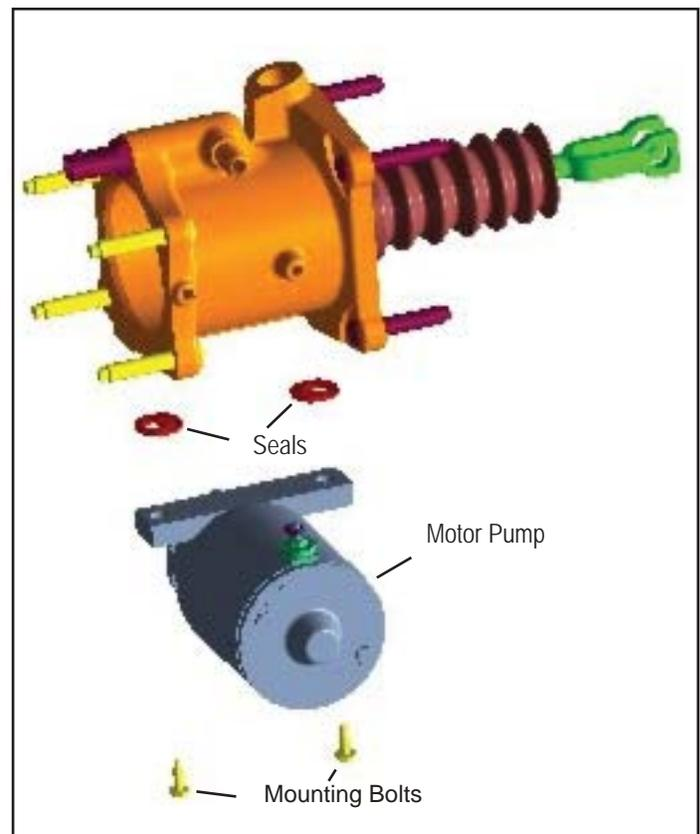
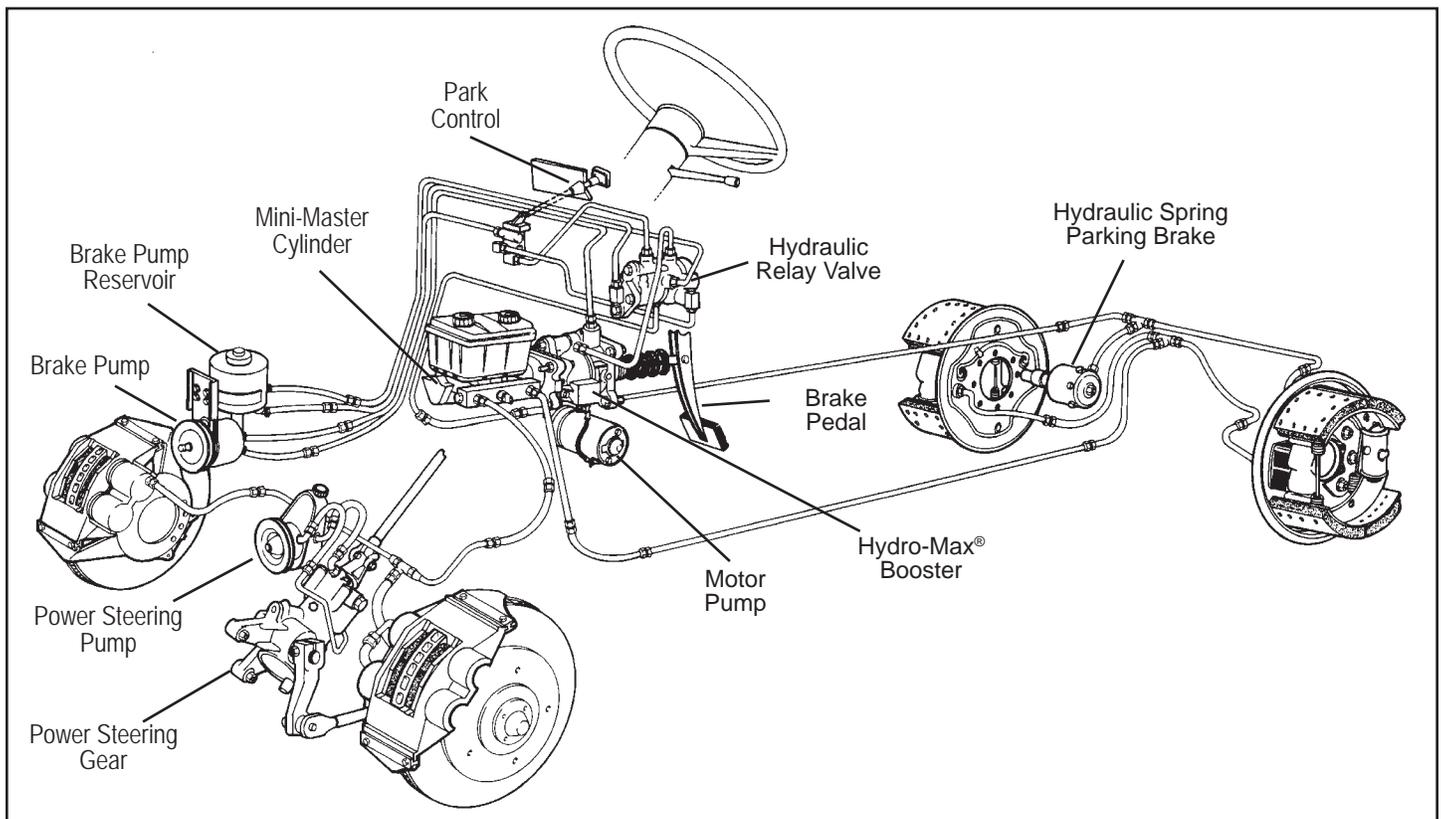

FIGURE 2 - TYPICAL HYDRO-MAX® SYSTEM WITH HYDRAULIC PARKING BRAKES
FIGURE 3 - TYPICAL HYDRO-MAX® SYSTEM WITH HYDRAULIC PARKING BRAKES
9. Before starting the vehicle, the fluid in the power steering or brake pump reservoir must be replenished to replace fluid lost during replacement of the Hydro-Max® booster. Refill the reservoir of the brake pump (see Figure 2) or power steering pump (see Figure 3) with the appropriate power steering fluid.
IMPORTANT CAUTION: If the vehicle has a separate brake pump and hydraulic spring parking brakes as shown in Figure 3, FILL THE BRAKE PUMP RESERVOIR WHILE THE PARKING BRAKES ARE APPLIED. Failure to follow this important procedure will cause the brake pump reservoir to overflow.
For systems **WITH** hydraulic spring parking brakes (shown in Figure 3), start the vehicle and bleed air from the parking brake actuators as recommended by the vehicle manufacturer. *These systems are not able to "self bleed" because of the parking brakes.*